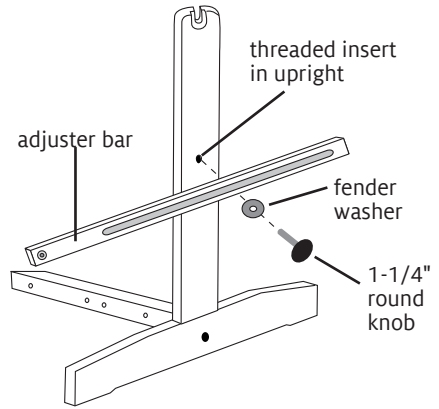

FIGURE 4: ATTACH ADJUSTER BARS TO THE UPRIGHTS
- Insert the knob into the long slot on the adjuster bar (Figure 4).
To reposition the loom, slightly loosen the round black knobs and T-knobs on the uprights (Figures 4 and 5, page 3). Position the loom as desired and retighten all knobs. ■